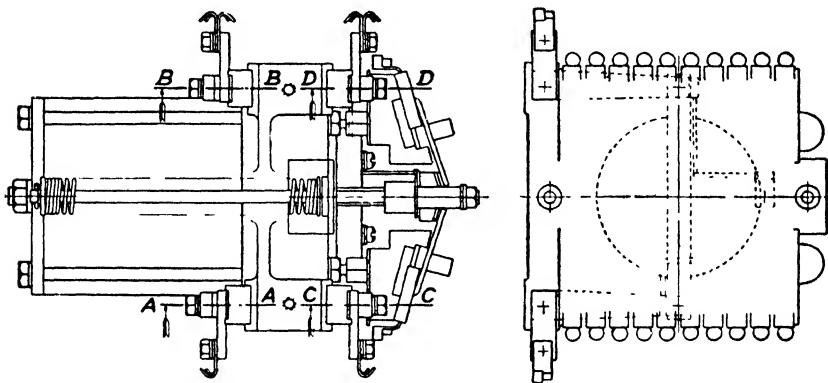

Fig. 34. Method of Assembly of Coil Supports for Voltage Control Relay, Type 17LH22C1
4. *Coil Replacement.* It is advisable to remove the relay to a bench when replacing coils. Refer to Figs. 28, 29, 30, 31, and 32, for structural details. Figs. 34, and 35 show the order of assembly of the various parts in the floating coil supports.